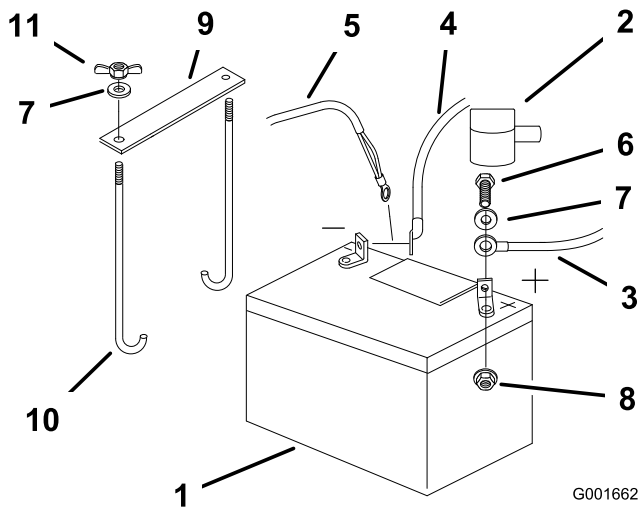

Figure 35
4. First disconnect the negative battery cable and ground wire from the negative (-) battery terminal (Figure 35).
5. Slide the red terminal boot off the positive (red) battery terminal. Then remove the positive (red) battery cable (Figure 35).
6. Remove both wing nuts (1/4 inch) securing the battery clamp (Figure 35).
1. Position battery in the tray with the terminal posts toward the engine (Figure 35).
4. Secure the cables with 2 bolts (1/4 x 3/4 inch), 2 washers (1/4 inch), and 2 locknuts (1/4 inch) (Figure 35).
6. Secure battery with J-bolts, hold down clamp and 2 washers (1/4 inch), and 2 wing nuts (1/4 inch) (Figure 35).